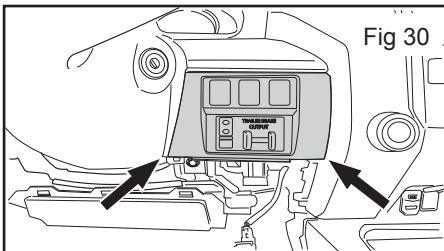

Fig 30
25. **2014-2017 Models Follow** Trailer Brake Install: Pop Trim off around Trailer Brake Output. Shown in (Figure 30)